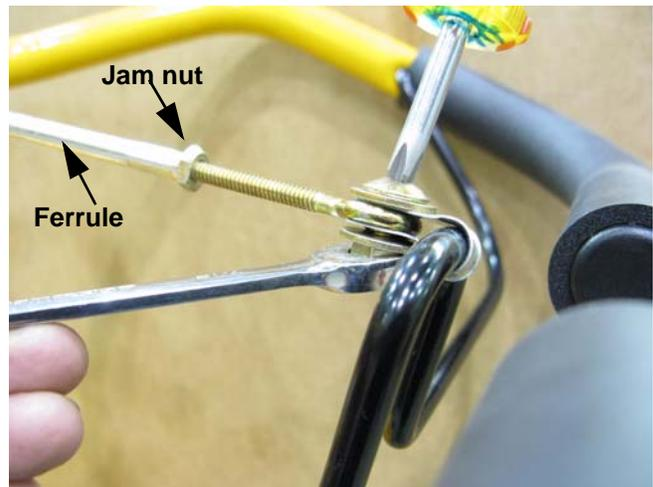

Figure 2.12
2. Disconnect the cable eye from the clutch control bale using a #2 Phillips head screwdriver and a 7/16" wrench. See Figure 2.12.